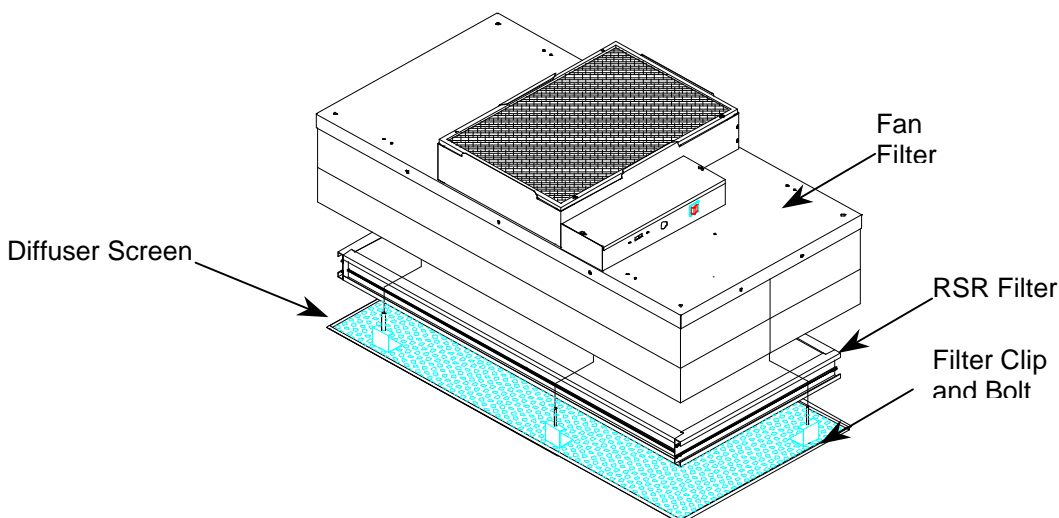

Figure 3
- Step 3.** Remove the six screws and clips, remove filter blocks and lower the filter as shown in Figure 3.